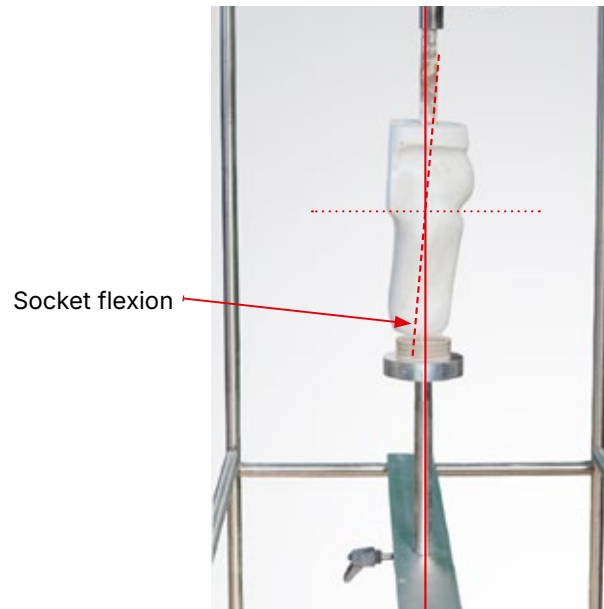

Fig 22
(B) Alignment of a long TT positive model (Fig 22 and Fig 23)